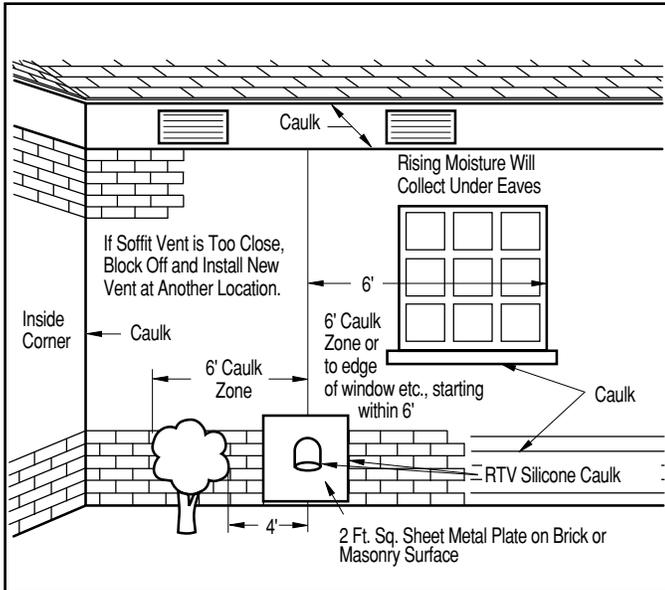

Figure 7. — Additional Considerations for Vent Terminal Location
Additional Considerations (See Fig. 7)
3. Do Not terminate vent pipe directly on brick or masonry surfaces. Use a rust resistant sheet metal backing plate (2 x 2 ft.) behind vent. (See Fig. 7).